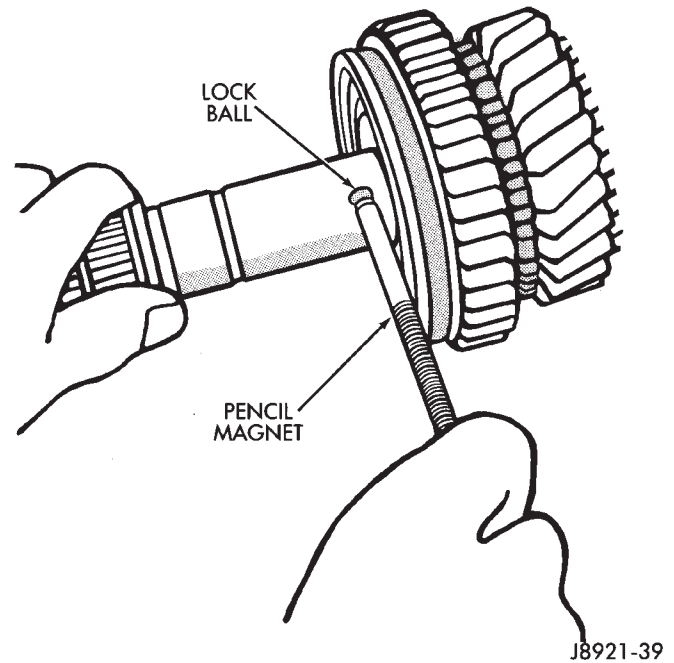
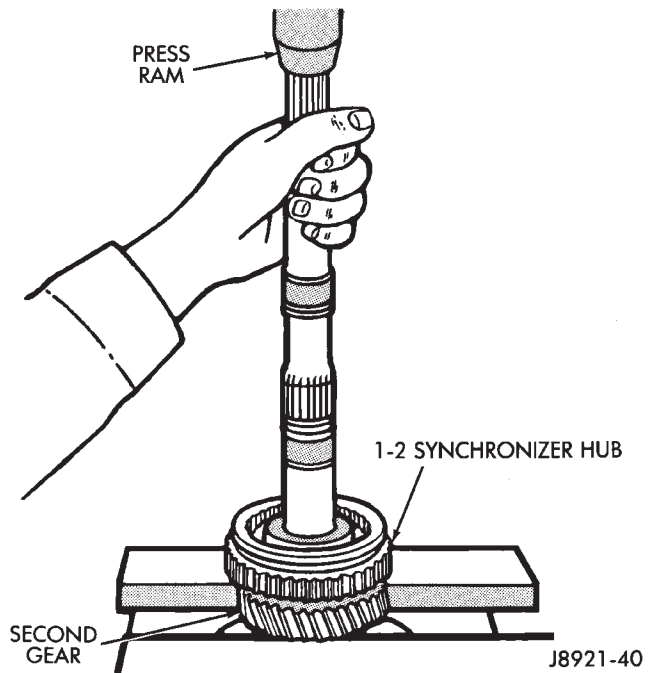

Fig. 104 Remove First Gear Bearing Inner Race Lock Ball
Fig. 105 Remove Second Gear, Reverse Gear, And 1-2 Synchronizer
- (5) Remove first gear needle roller bearing from output shaft.
- (6) Remove first gear bearing inner race lock ball with pencil magnet (Fig. 104).
- (7) Remove first gear synchronizer ring.
- (8) Using Bearing Splitter P-334 or suitable press plates positioned under second gear, press 1-2 synchronizer, reverse gear, and second gear from output shaft (Fig. 105).